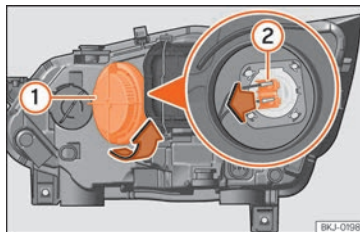

Fig. 103 In the engine compartment: main beam lamp.
- Turn the cover ① anti-clockwise and take it out >>> Fig. 103.
- Remove the bulb connector ② by pulling it outwards.
- Fit the bulb connector ②.
- Fit cover ①, turning it towards the right.